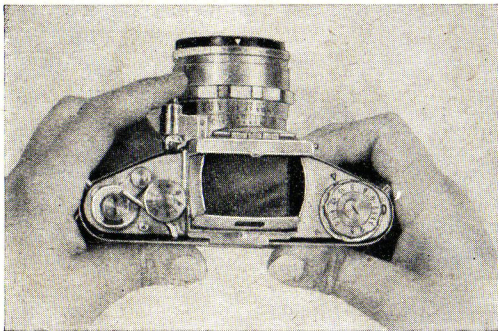

Fig. 11
To set, lift the knob (8) and turn it in the direction of the arrow till the selected exposure time is opposite the red mark on the immovable interior disk. Then let the knob (8) snap down. In the same way set the shutter for B and T. To release (Fig. 11) press knob (3), which also has threads for a cable release. The release knob may be protected against unintentional tripping by the swivelling shutter release lock (3a) (important for transporting as well as for storing the camera). To free the release knob for exposing the lock has to be swung up. If knob (8) is set on B, the shutter opens upon pressure on the release knob